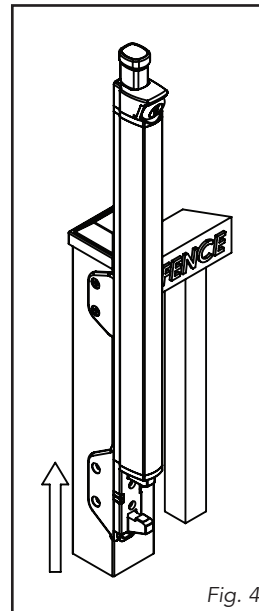
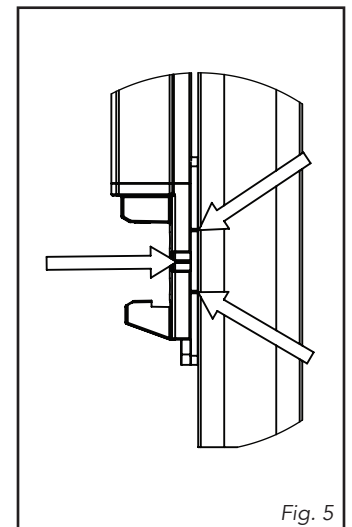
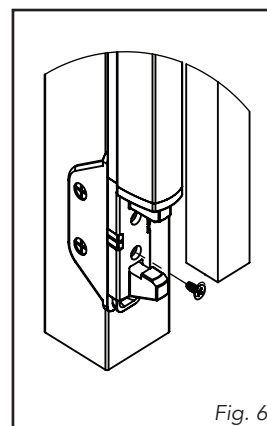

Fig. 4
Fig. 5
Fig. 6
- Temporarily attach the lower bracket by holding it against the post and sliding it up into the latch body (Fig.4). Center the mark on the latch body between the two marks on the lower bracket (Fig.5). With the latch at the PROPER HEIGHT, mark the lower bracket location on the post.
- Remove latch body and attach the lower bracket with the (4) supplied flat head mounting screws.
- Position at proper height and secure with (1) #8 flat head screw (Fig.6).